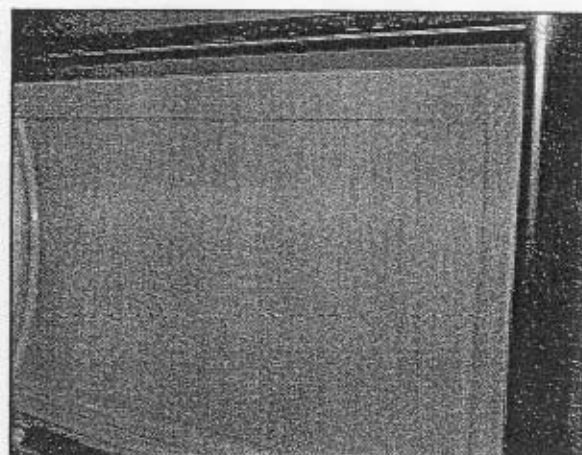

Figure 10j
F. Assemble the gold trim kit with corner brackets (provided) and slide trim around the surround. See Figure 10j.